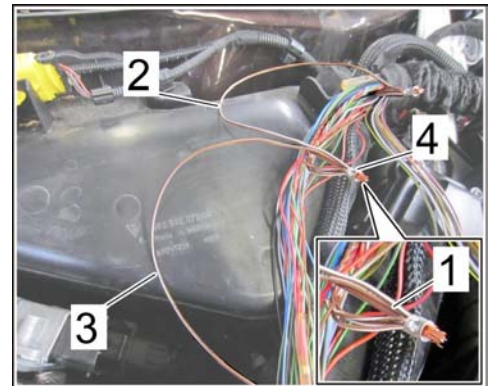

Figure 8
- Make sure that all strands are contained in the BDM clip and are sticking out by about 2 mm (⇒ *Figure 8 -inset-*).